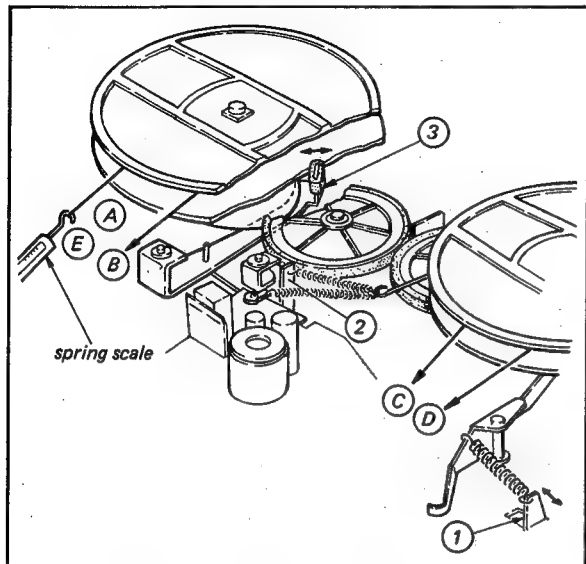

Fig. 4-17. Brake torque adjustment
1. Set the Function Lever to STOP. Place an empty reel with several turns of string wrapped around the hub onto the Supply Reel Table as shown in Fig. 4-17. Attach the string to the spring scale. Pull the scale at a speed of approximately 19 cm/sec. Check the reading for brake torque. It should be more than 800 g-cm.
2. Repeat the above brake-torque checks for B, C, and D as indicated in Fig. 4-17. The brake torques should be less than 400 g-cm for the direction of B and C and more than 800 g-cm for the direction of D.
3. Bend Spring Supporting Brackets ① and ② with a pair of pliers, if necessary, to obtain the correct brake torques.
4. Set the Function Lever to PAUSE. Repeat the procedure described in Step 2 for the direction indicated by E in Fig. 4-17. It should be more than 800 g-cm.
5. If necessary, bend the portion of the Pause Brake Lever identified by ③ with a pair of pliers.